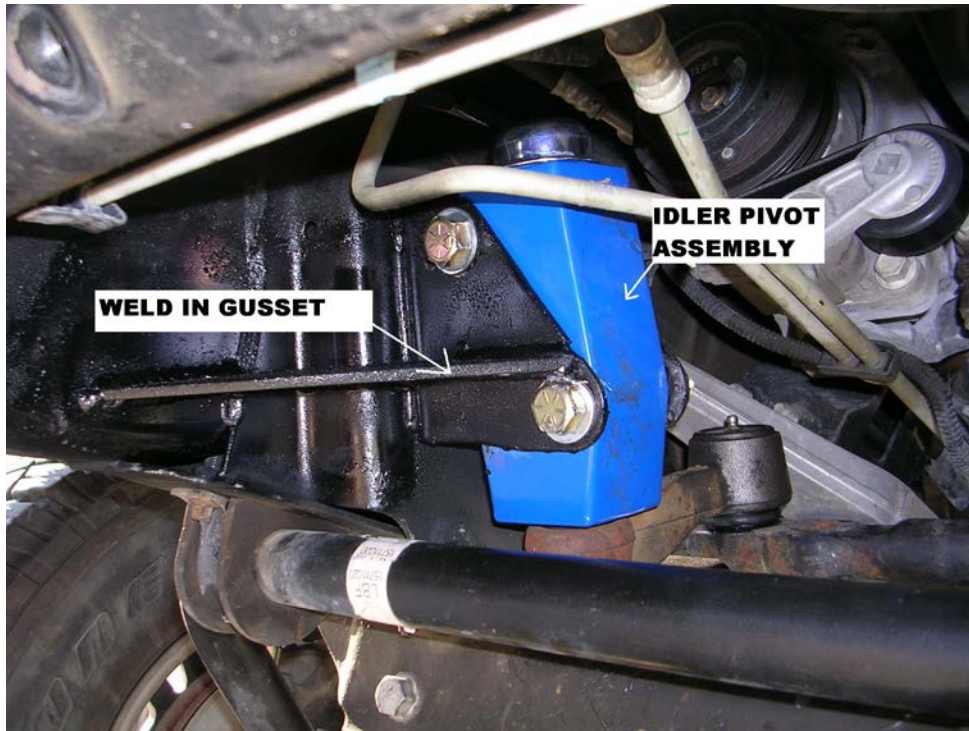

FIGURE 1.1
6. Install the weld in gusset as shown in the picture (figure 1.1) A qualified welder will be needed at this point. ****Do not quench welds****
8. Install the new **Idler Pivot Assembly** (noted in figure 1.1) in the reverse manner above, using **NEW** 9/16 – 12, Grade 8 bolts, flat washers and locknuts. (Flat washers must be under the bolt head and between the nut and the frame bracket.) **Torque to 100ft. lbs.**